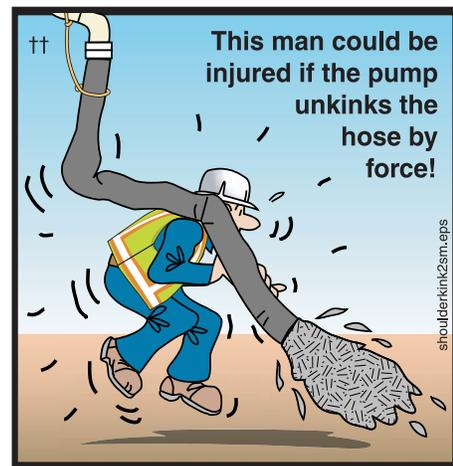

Figure 49
8.27 **⚠ WARNING** **Do not kink hoses.** Kinking will cause the pump to create maximum concrete pressure. **The pump may unkink the hose with force!** (See Figure 49.)